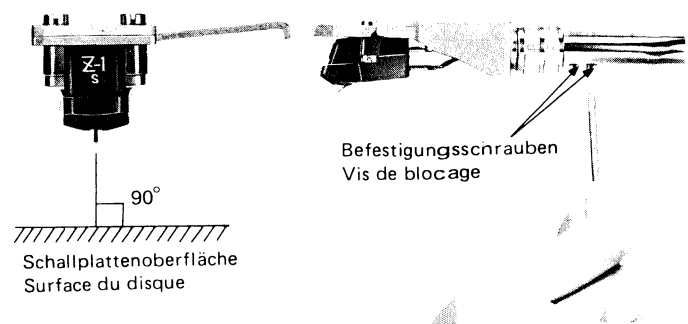

Fig. 13
### 8-(4) Headshell mounting Angle Adjustment (Fig. 13)